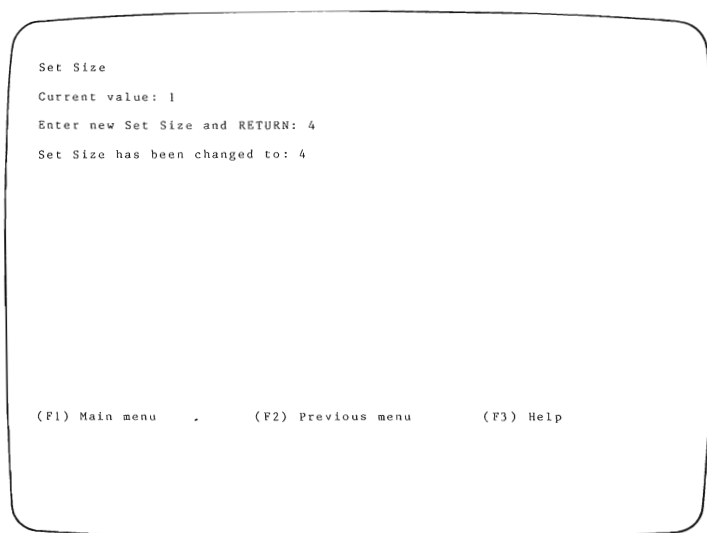

Figure 3-44. Set Size Screen
*Set Size* is used when you want to program more than one device at a time with different patterns. By entering a value from 1 to 20 at the screen prompt (figure 3-44), you choose the number of devices to be programmed with different patterns. The *Set Size* may be changed back to its default value of 1 by pressing the RETURN key. Refer to your programmer manual for details.